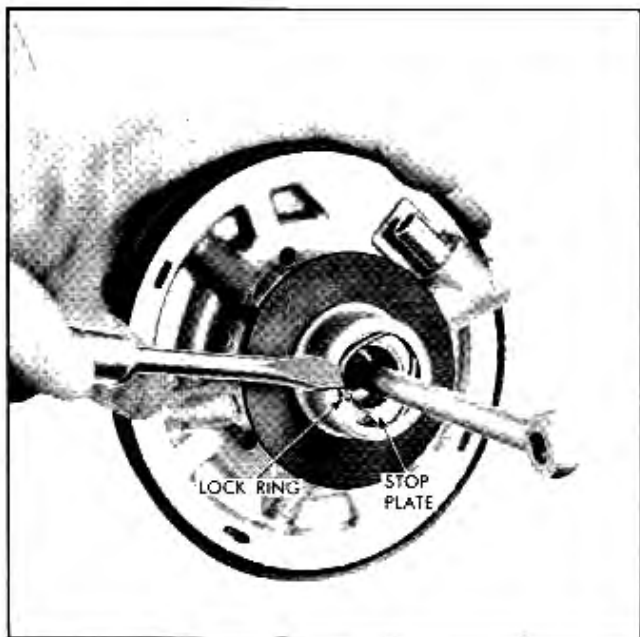

Fig. 5-70 Replacing Air Valve Lock Ring
9. Carefully turn power piston, guide, air valve and push rod assembly over and insert stop plate and triangular lock ring which hold the air valve in place. Lock ring may be assembled by using small screwdriver (Fig. 5-70). After being locked in place, the air valve will have approximately $\frac{1}{32}$ " travel against valve return spring before picking up floating valve load. *Care should be exercised during this operation to avoid damage to the master cylinder plunger. Never put the master cylinder plunger into a vise.*